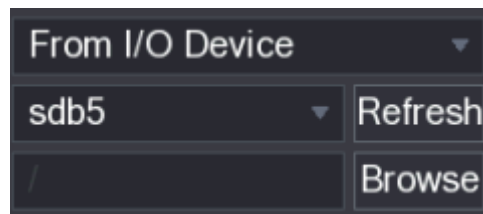

Figure 5-107
- **From I/O Device:** Recorded videos playback from external storage device. See Figure 5-107.